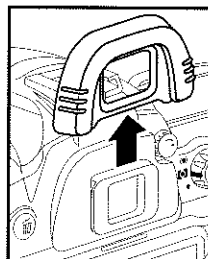

Fig.5
1. Remove the rubber eyepiece from the camera (Fig. 5).